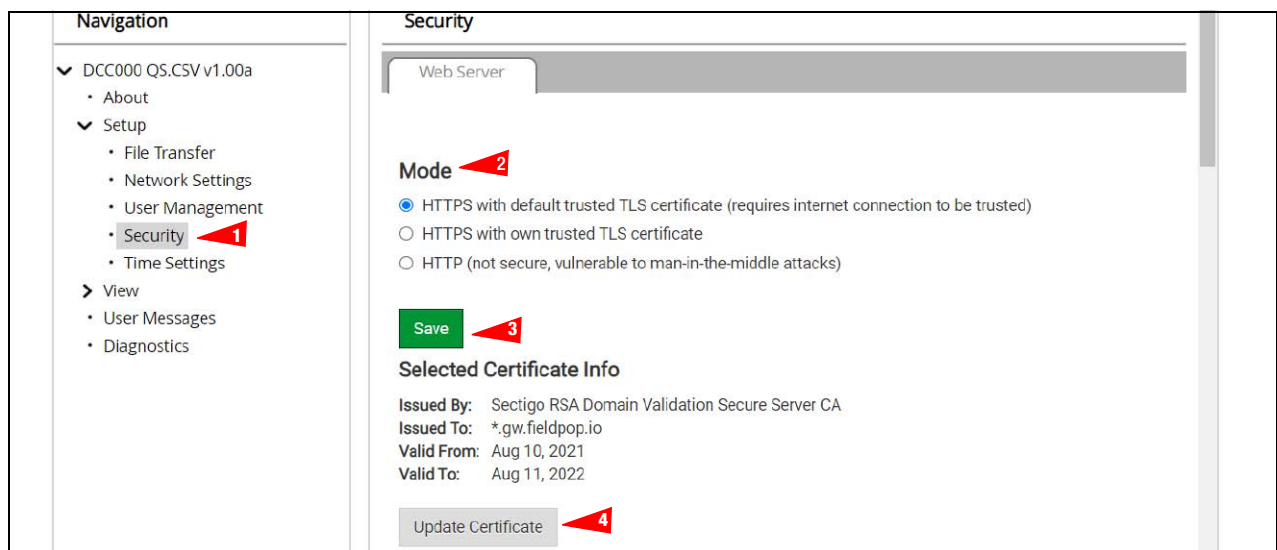

Figure 29. FS-GUI Security Setup
- Click **Security** in the Navigation panel (Item 1 in Figure 29).
- Click the **Update Certificate** button (Item 4 in Figure 29) to open the certificate and key fields.
- Click **Save** (Item 3 in Figure 29).